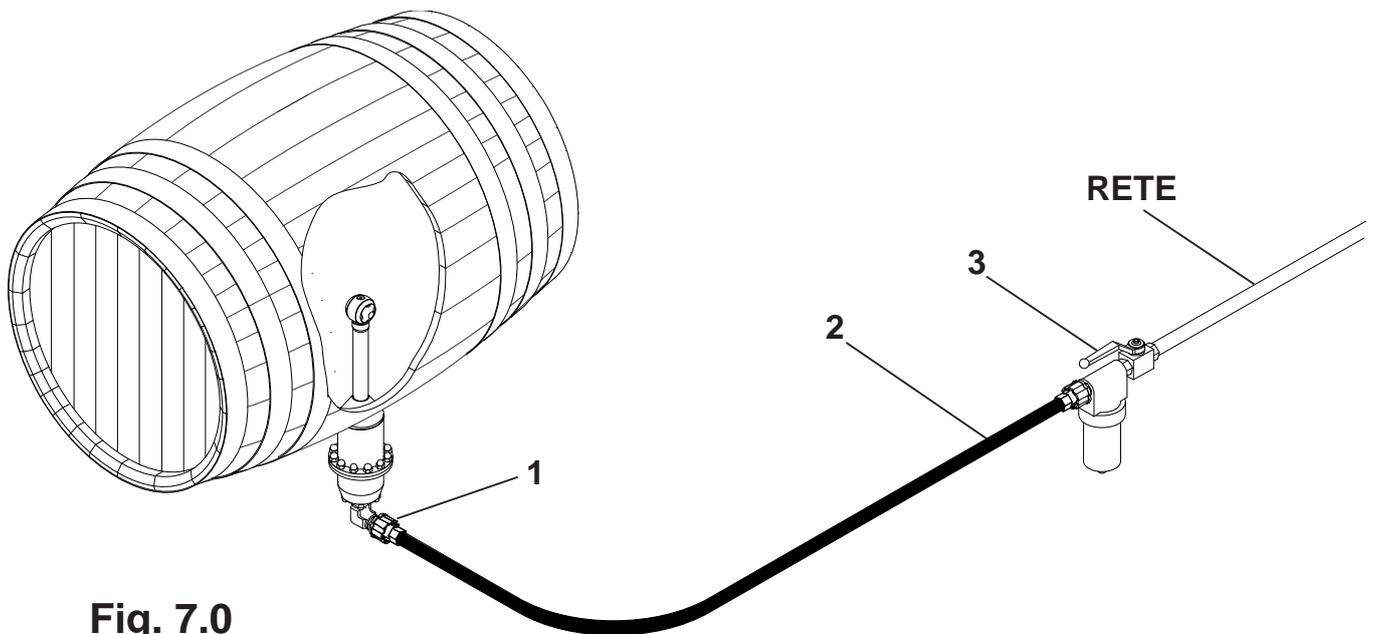

Fig. 7.0
7.1) Place the head in the barrel **fig.7.0**.